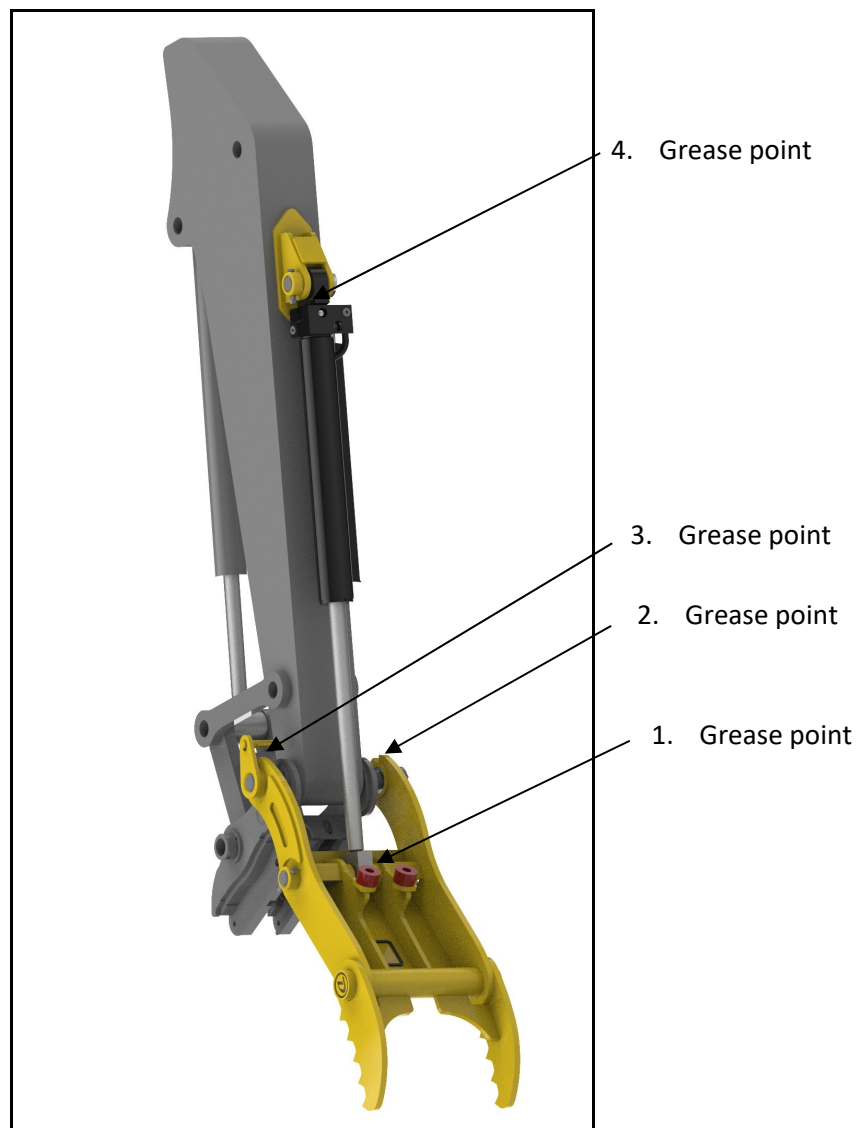

Figure 10 GREASING POINTS
21. Grease and lubricate all pivot points on the Doherty Bucket Clamp as shown in Figure 10.
3. Grease all pivot pins. See Figure 10